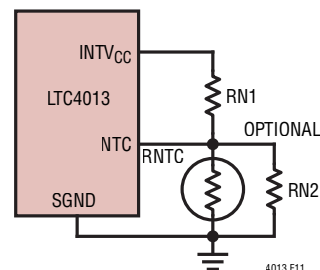

Figure 11. NTC Configuration for Temperature Compensation
As mentioned the LTC4013 uses a charge voltage method that can be used to shift the charge voltage as a function of temperature. In the simplest view the voltage ( $V_{NTC} - V_{INTVCC}/2$ ) is multiplied by 0.21 and added to the charge voltage. Figure 11 shows how to configure the pin and Table 10 shows some common temperature coefficient (TC) and associated resistor settings using 10k, B = 3380 NTC resistor. Note TC is with respect to the charge voltage at FB which is roughly 1 cell of a lead acid battery.